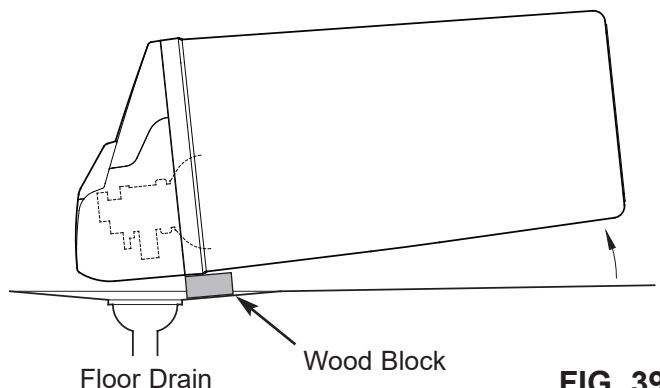

FIG. 39
6. Lay a piece of 2 inch thick board near the floor drain (See Figure 39).